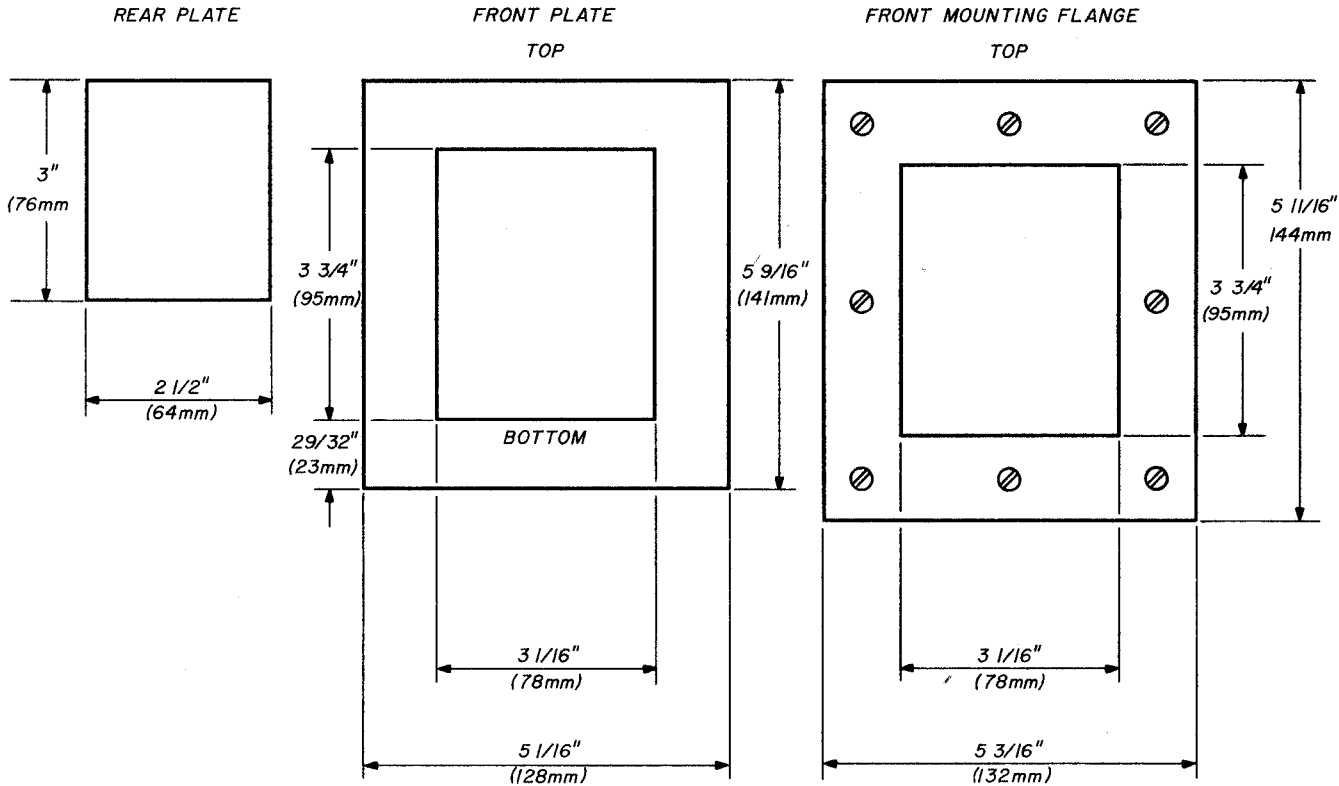

Figure 7-5.
and rear of the assembly are truly flat so the front and rear plates shown in *Figure 7-5* will fit perfectly.
Step 6. Cut rear plate, front plate, and front mounting flange from $\frac{1}{8}$ inch (3 mm) thick, five-ply plywood as illustrated in *Figure 7-5*. Approximately $\frac{3}{16}$ inch (5 mm) from the outer circumference of the rear and front plates, drill $\frac{1}{16}$ inch (1.5 mm) diameter holes
Step 7. Center the front mounting flange over the front plate assembly and drill the mounting flange for eight mounting holes as shown in *Figure 7-5*; the holes should be in about $\frac{1}{2}$ inch (12 mm) from the circumference. Either no. 4 or no. 6 (M 3.5) by $\frac{1}{2}$ inch (12 mm) sheet-metal screws will do the job. Drill a $\frac{7}{16}$ inch (11 mm) diameter hole $\frac{3}{4}$ inch (19 mm) in from the end of the plate on the bottom of the enclosure. This will be for the $\frac{7}{16}$ inch (11 mm) diameter brass tubing that is used for the Gunnplexer control cable exit; water will not flow up hill and the tubing may be hermetically sealed with a small wad of putty. Temporarily